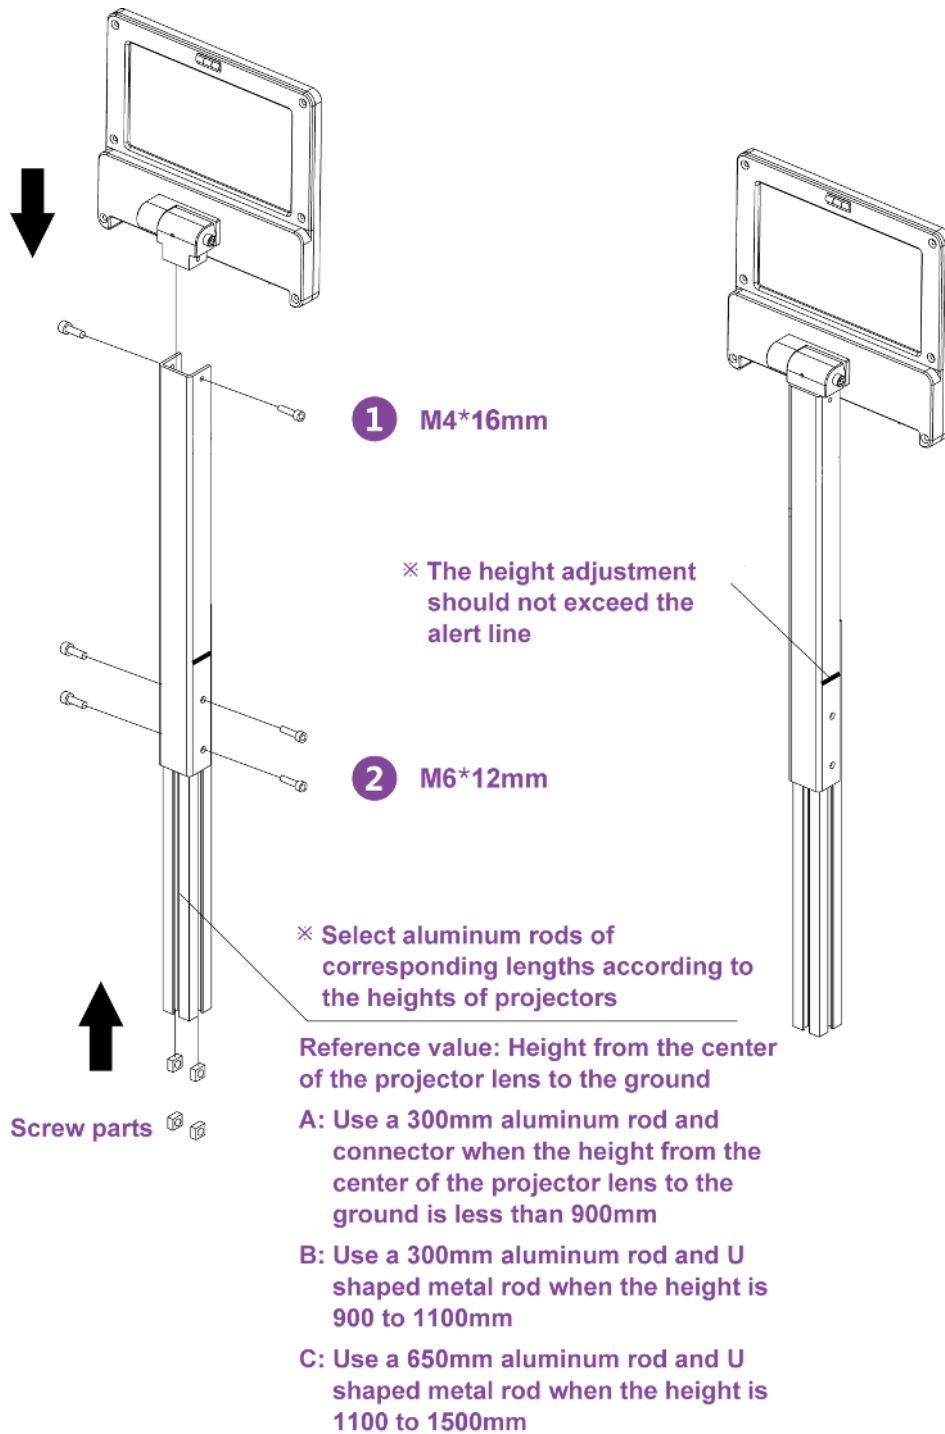

Figure 7: Installing the Polarizer
Step ①: Fix the polarizer onto the top of the adjustable bracket extension kit with screws (M4\*16mm), as shown in **Figure 7**.
Step ②: Fix the adjustable connecting trough of the adjustable bracket extension kit with screws (M6\*16mm) from the left and right sides, as shown in **Figure 7**.